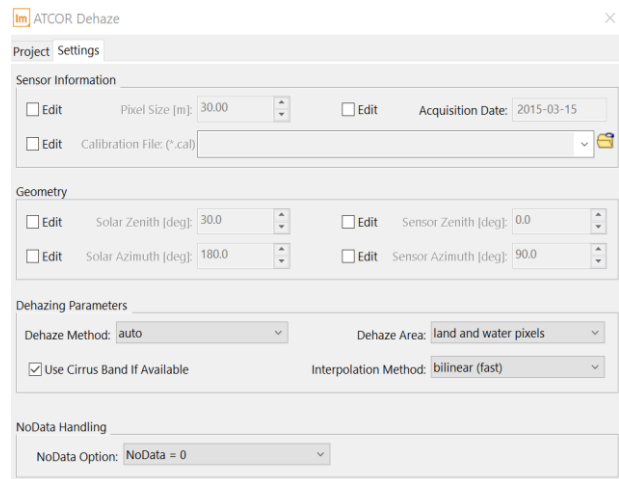

Figure 4: ATCOR Dehaze Settings Tab.
5. Navigate from the Project Tab to the **Settings Tab** (Figure 4).
25. Navigate from the Project Tab to the Basic Settings (Figure 4).